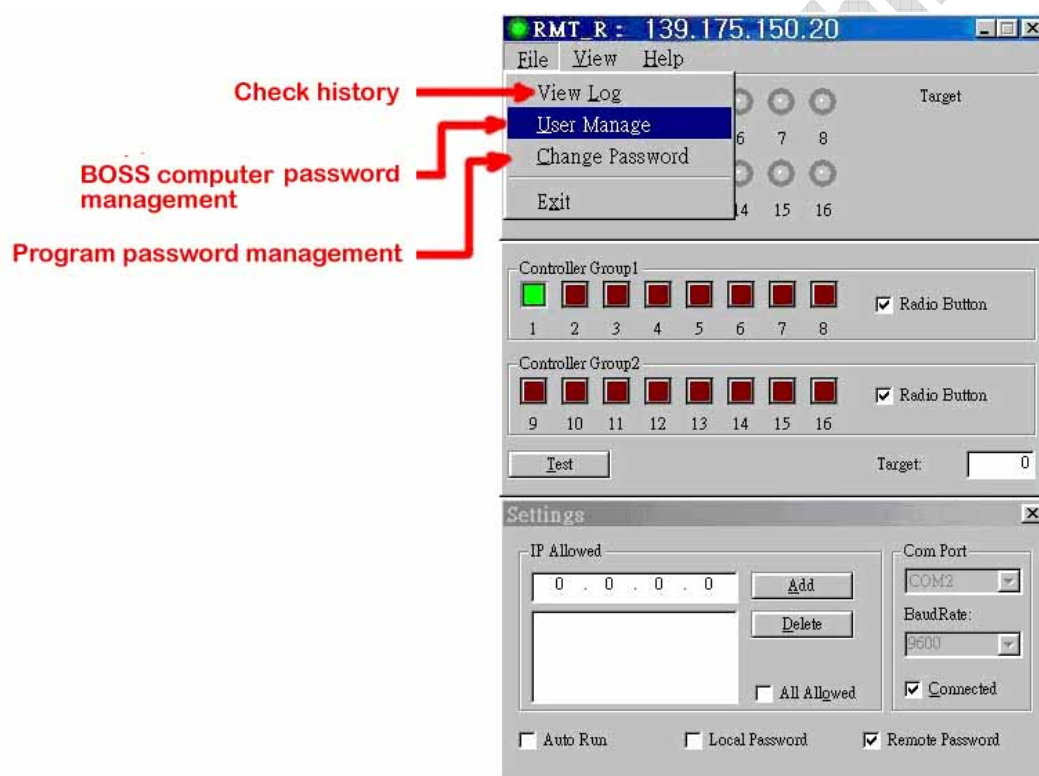
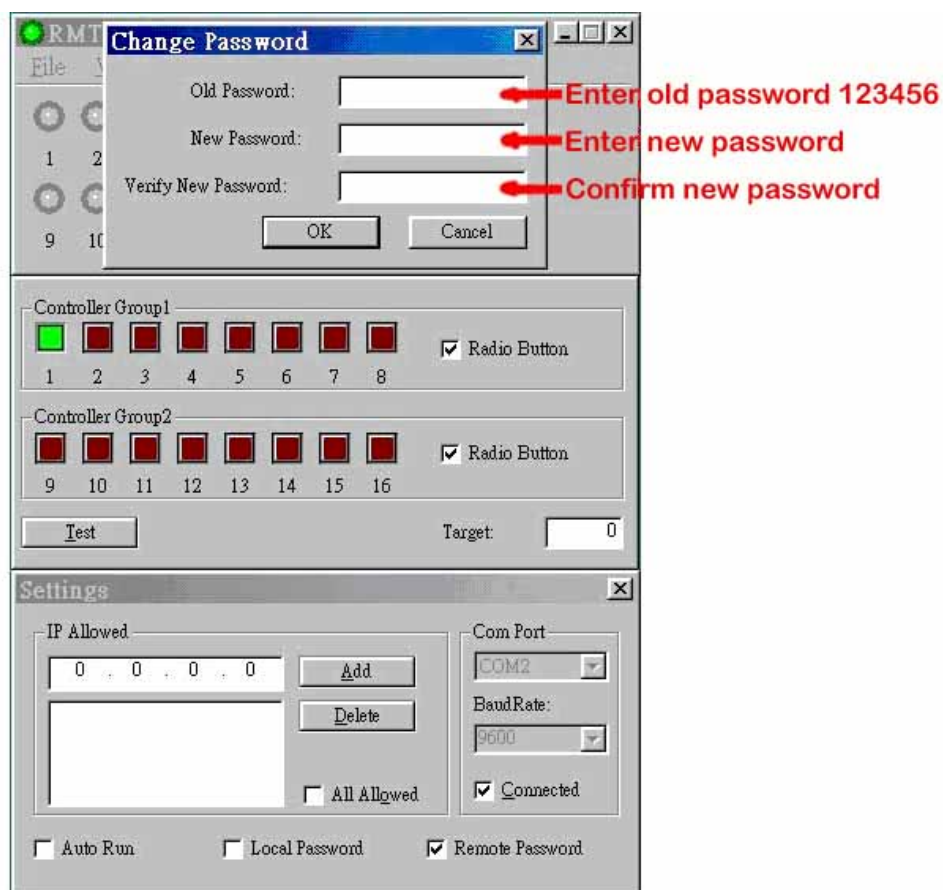

Fig. 7
Fig. 10 Modify Program password
- f) Password Management: There are remote-control password (User Manage) and program password (Change Password). The remote control password manages the user (BOSS) name and password in the distance. The program password manages the password entered when the program starts. Please refer to Fig. 7 to Fig. 10 as follows for the operation.